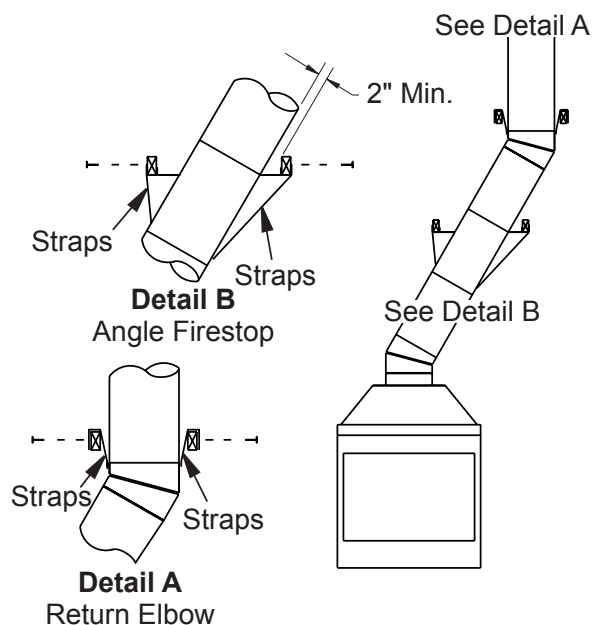

Figure 10 - Ceiling Support Pipe 12S-12DM
2. Chimney weight above offset rests on return elbow. Straps must be securely nailed to rafters or joists (see Figure 10, details A and B).
4. All pipe connections between the offset and return must be secured with two screws on the outer pipe only (see Figure 10). Do not penetrate the inner stainless.